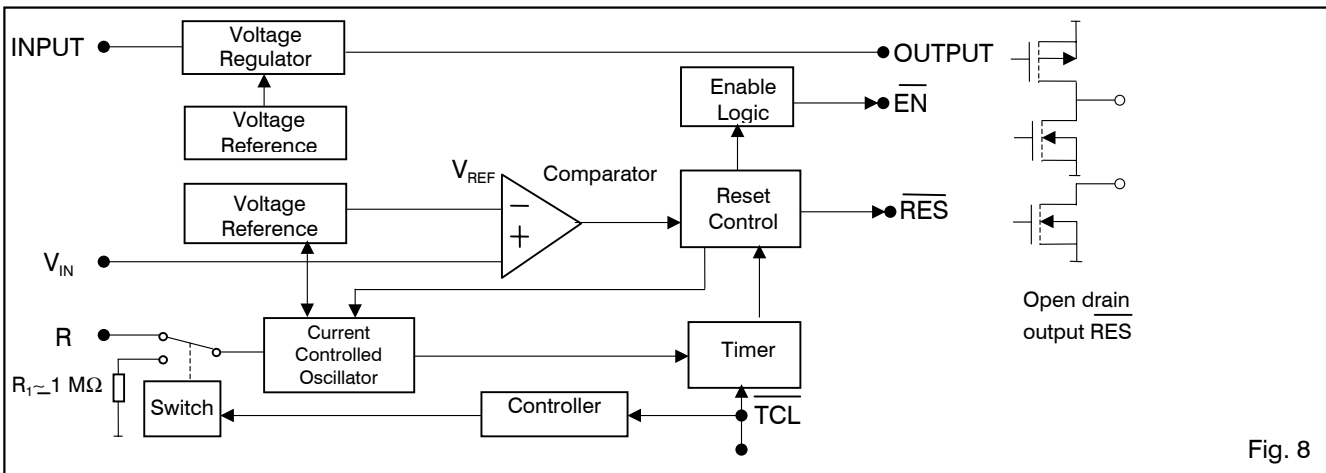

Fig. 8
- ²⁾ Full operation guaranteed. To achieve the load regulation specified in Table 3 a 22 μF capacitor or greater is required on the INPUT, see Fig. 8. The 22 μF must have an effective resistance $\leq 5 \Omega$ and a resonant frequency above 500 kHz.
⁶⁾ The comparator and the voltage regulator have separate voltage references (see "Block Diagram" Fig. 8).